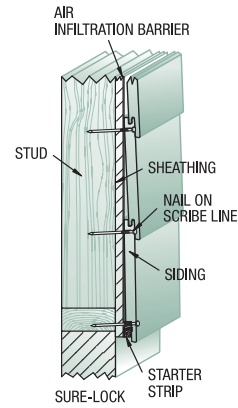

FIG. 4
- Although not recommended, where 24" o.c. vertical framing is used, wood-based sheathing is required. Follow product-specific nailing pattern (see Fig 4). Nail to framing 24" o.c. with intermediate nailing 12" o.c. to sheathing with a 6d galvanized ring shank nail or equivalent. This effectively creates a 12" o.c. nailing schedule.
- Sure Lock siding requires one nail per lap piece on all studs 16" o.c. Make sure each nail is placed precisely on the scored nailing guideline. (This ensures that the nail head is properly concealed and does not penetrate the interlock groove.) The top of the nail must be flush to insure ease of interlock during application. *See Fig 4.*